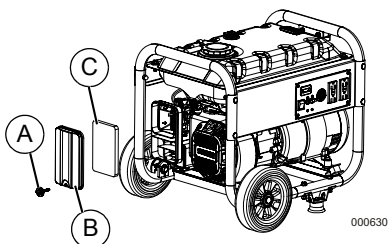

Figure 4-3. Air Filter Assembly
1. See Figure 4-3. Turn knob (A) and remove air filter cover (B).
2. Wash in soapy water. Squeeze filter (C) dry in clean cloth (DO NOT TWIST).